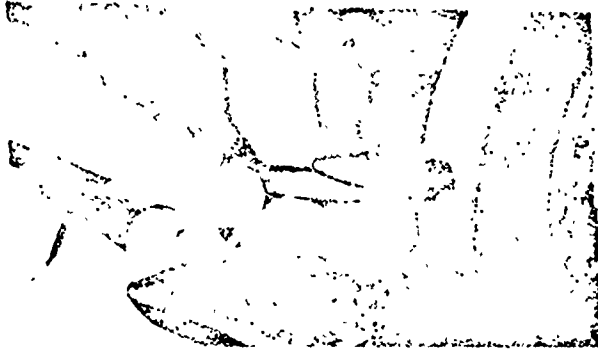

Fig. 3
3. Test each lip with the drill point gage. If the angles are correct, go to the lip opposite of the first one, and grind until the angles are correct and length of the lips are correct. (See Fig. 3).